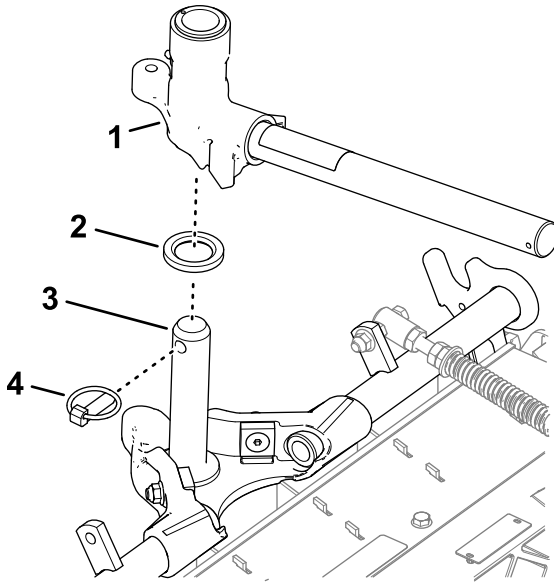

Figure 18
2. Insert the lift-arm yoke onto the carrier frame shaft (**Figure 18**).